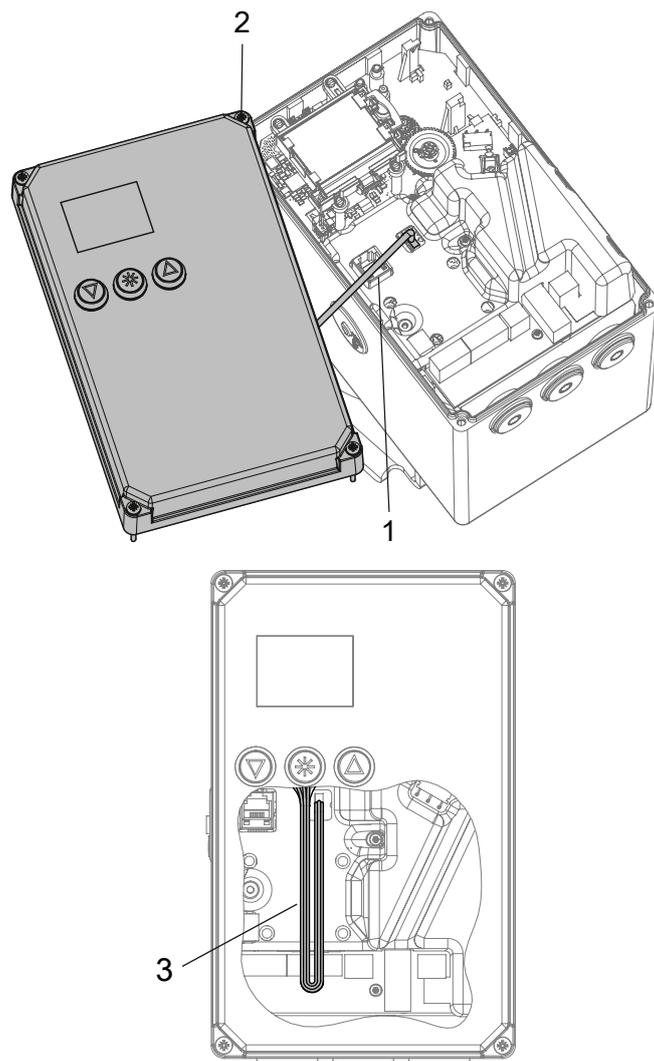

Fig. 38: Special version with three-key operation
⇒ See Fig. 38.
- ⇒ Make sure the connecting cables (1) of the housing cover are not damaged by tensile load.
2. Move the housing cover to the position as shown in Fig. 38.
3. Place on cover. Briefly turn the screw (2) counterclockwise to center it. Tighten it slightly.
5. Loosen the screw (2), while holding the housing cover to ensure the connecting cables (1) of the housing cover do not get damaged by tensile load.
6. Place the housing cover on the housing and route the connecting lines in the housing as shown in Fig. 38.